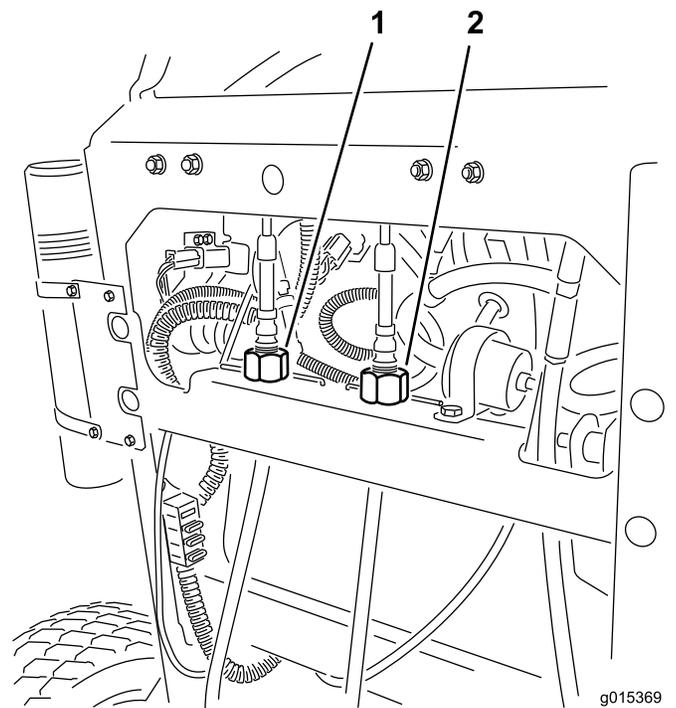

Figure 55
4. Rotate the right cable adjustment to position the right motion control in the center of the control panel neutral lock slot (Figure 55).